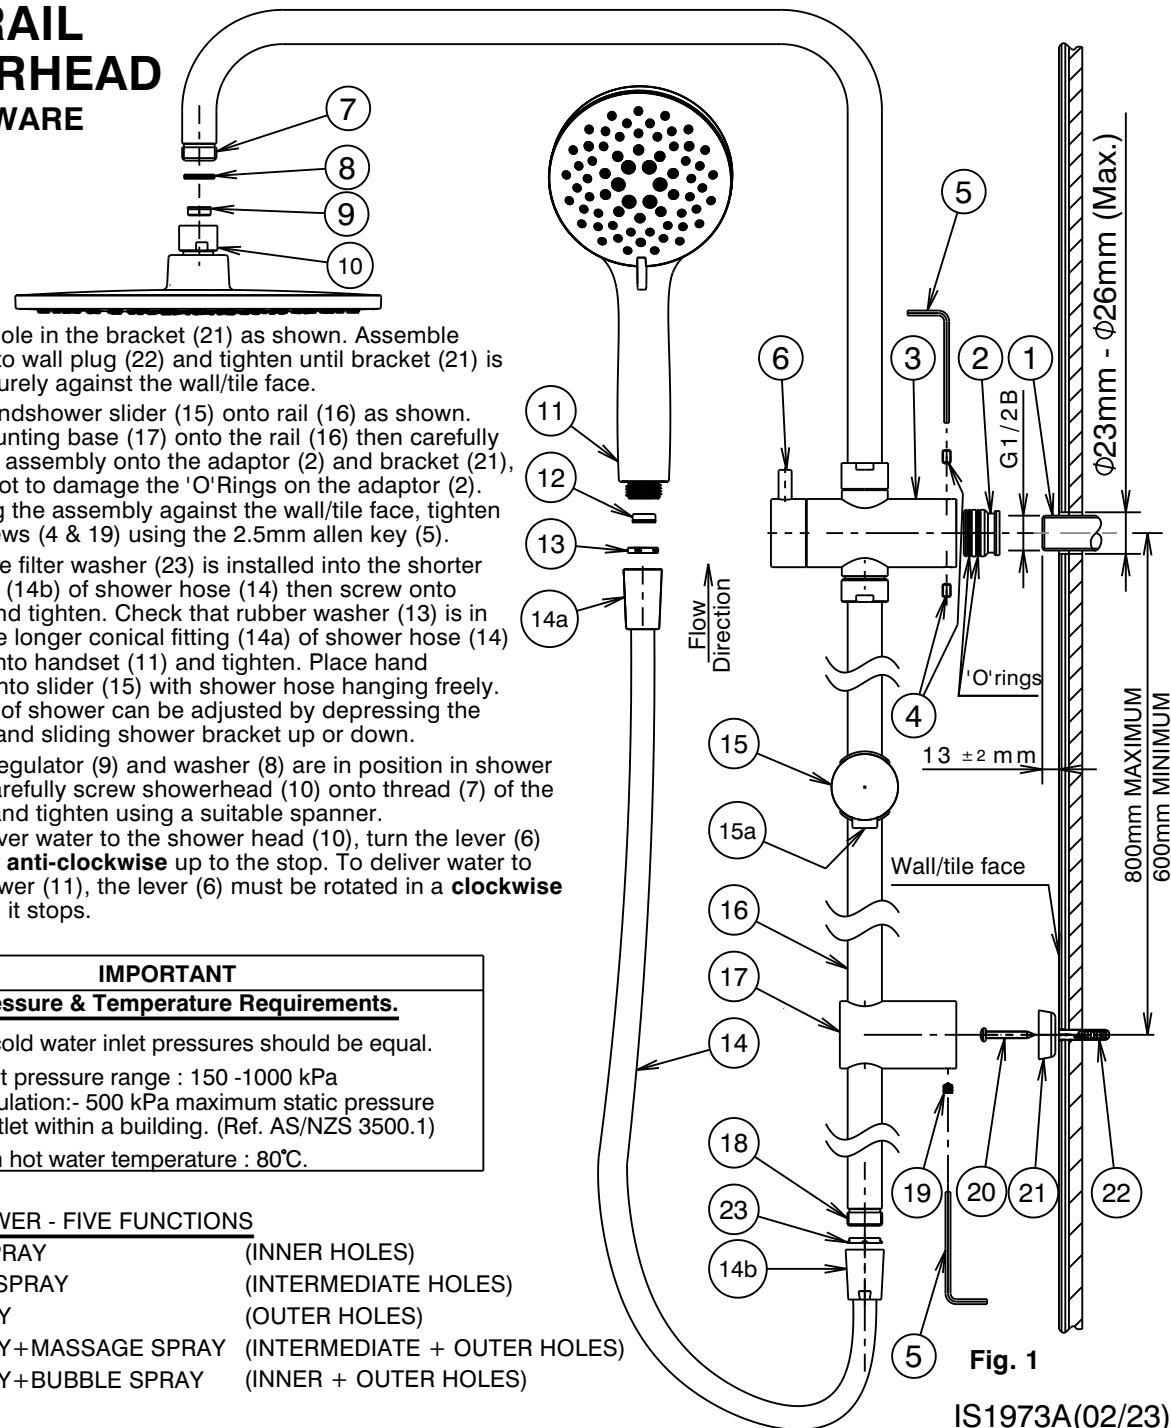

Fig. 1
- 2) Loosen grub screws (4) using 2.5mm allen key (5) & remove inlet adaptor (2) from diverter (3). Screw inlet adaptor (2) onto threaded nipple (1) & tighten until its back face has bottomed against the wall/tile face. DO NOT OVERTIGHTEN.
- 3) Mark the position for the shower rail mounting base (17) at a suitable distance from the threaded nipple (1). (Fig.1). Make sure the marked holes are vertically aligned before proceeding.
- ii) Insert small end of wall plug (22) into drilled hole and tap until flush with surface.
- 5) Loosen grub screw (19) using 2.5mm allen key (5) & remove bracket (21) from mounting base (17). Pass the screw (20)